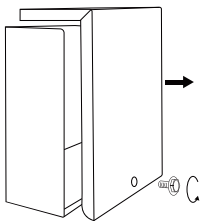

Figure 1
2. Remove the metal cover with a screwdriver (Not included), and take out the mounting bracket, screws and anchors inside. (Figure 1)